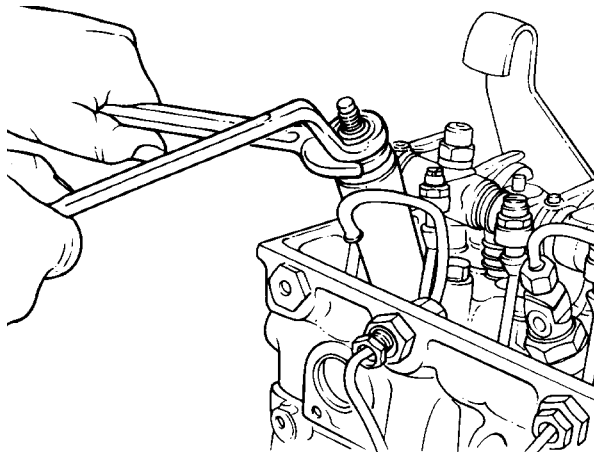

Figure 102 - Injector Nozzle - Removal
- h. Remove the injector nozzle using the tube spanner (Table 2, Item 8), (Fig 102).